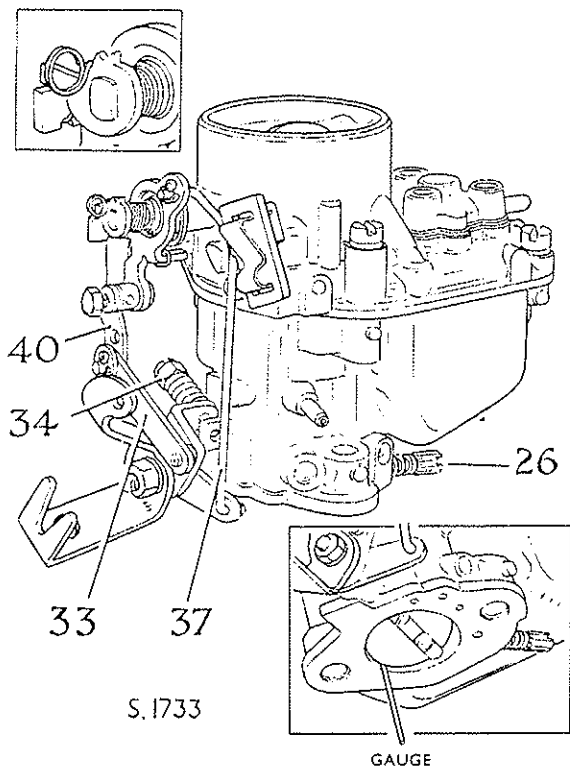

Fig. C.9. External linkage
This adjustment is made by altering the position of the link (33) connection in the fuel pump operating lever (40). In Fig. C.9 it is shown in the position that gives the shortest pump stroke.